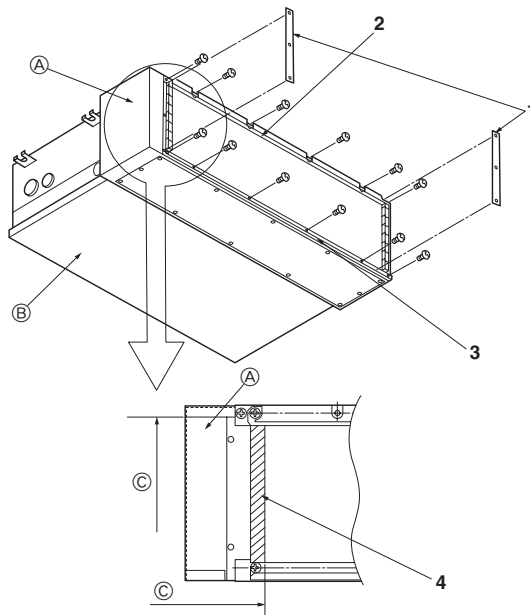

Fig. 9-2
9.2. Filter rail installation (Rear air intake) (Fig. 9-2)